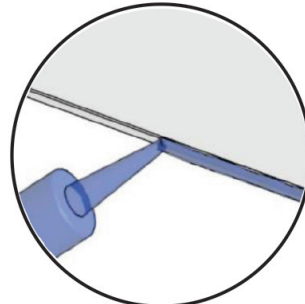

FIG 20.
- Remove shelf and put a thin bead of adhesive down both edges of shelf (FIG 20).